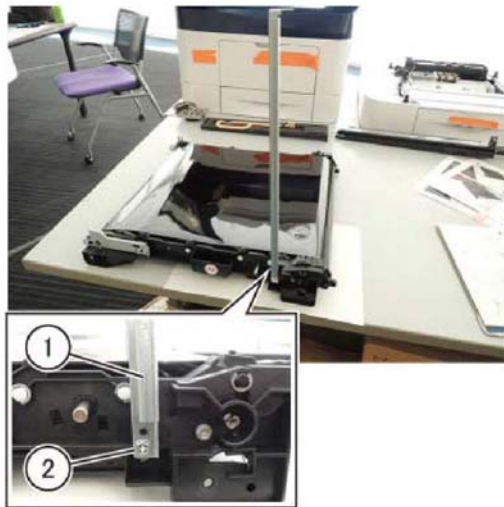

Figure 7 IBT belt unit bottom guide install
10. Install the guide removed in step 6 on the front IBT belt unit in order to use it as a stand, Figure 7.